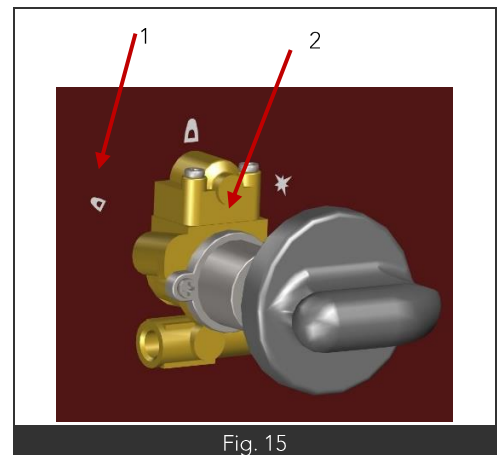

Fig. 15
- Set it to the low output position (Fig15. Item 1)
- Tighten the low output screw (Fig.15 Item 2) + or - to reduce the flame by 2/3.